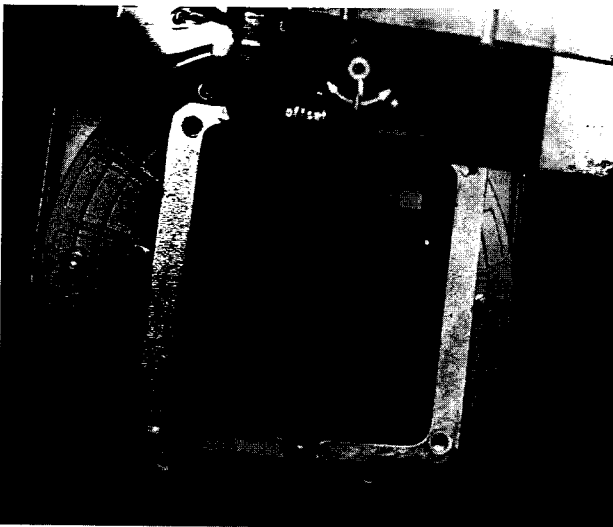

Figure 5- Blower Removed from Burner Assembly (Gasket Shown)
6. Remove 4 bolts from blower flange with a ½" wrench. Remove entire blower assembly. See Figure 5.
NOTE: Ensure the burner assembly gasket (Figure 5) is installed in the air channel and seats properly between the burner assembly and blower.